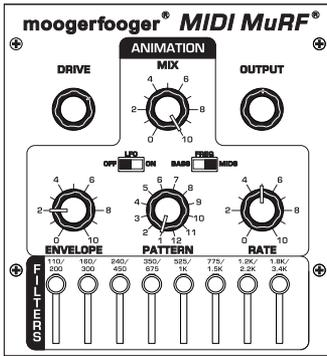

Figure 5 - Testing the Filters
We'll now show how the MIDI MuRF's filters affect the MF-105M's frequency response. We will always start with this 'basic' panel setup, shown in figure 5, which is:
7) The Filters' resonant frequencies can be shifted up and down by a small amount to create an effect similar to phasing. Figure 8 shows a graph that portrays the results of shifting a resonant filter's center frequency. In the MIDI MuRF this can be done two ways, depending on the position of the LFO slider switch. When the slider is in the "OFF" position, the filters' center frequencies can be shifted by an expression pedal (such as the Moog EP-2) or CV plugged into the LFO/SWEEP Jack. To hear how this works, return to the basic setup described in Figure 5. Plug a Moog EP-2 into the LFO/SWEEP control input. Then, as you play into the MIDI MuRF, rock the EP-2 back and forth. You will hear the filters' frequencies shift with the motion of the pedal.
To hear the effect of the LFO on the MIDI MuRF's filters, return to the basic setup outlined in figure 5, then move the LFO slider switch to "ON". Now as you play through the MuRF, you'll hear the filters swept up and down automatically. To change the speed of the LFO, plug a Moog EP-2 expression pedal into the LFO/SWEEP Control Input. The EP-2 can now slow down or speed up the LFO.